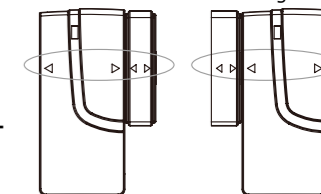

Fig. 2
- Ensure the >/< marks on the sides of the transmitter and magnet match up as shown in Fig. 2.